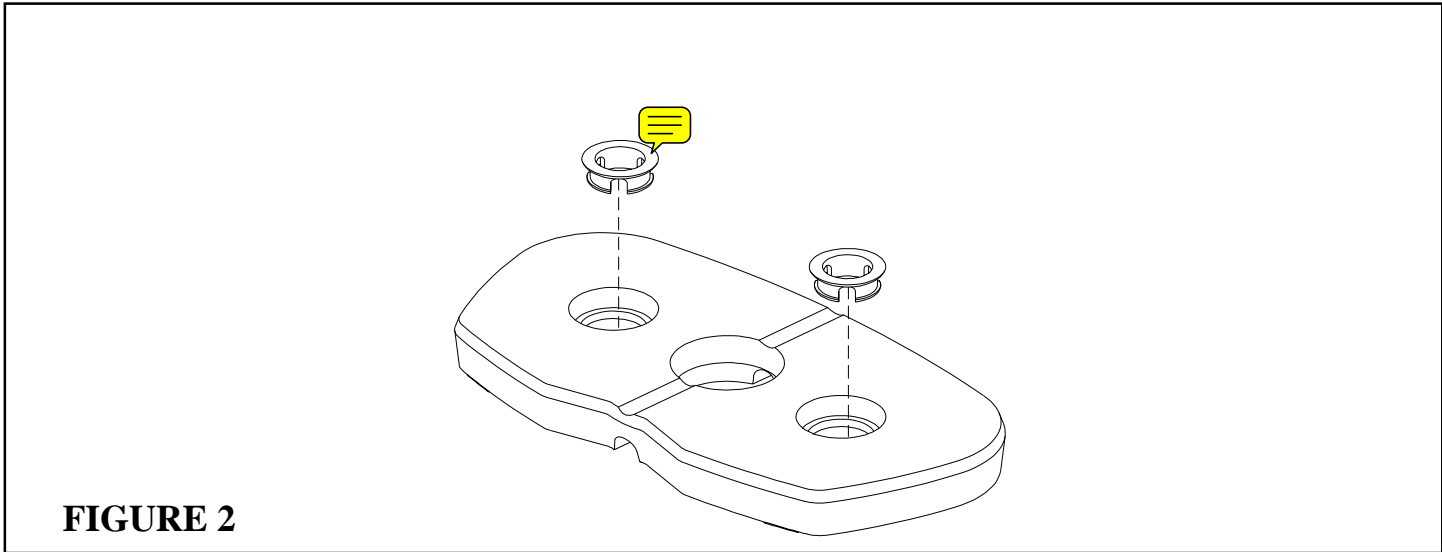

FIGURE 2
• CHECK THAT THE HEADPLATE AND WEIGHT PLATES ARE ASSEMBLED AS SHOWN IN FIGURES 2 & 3